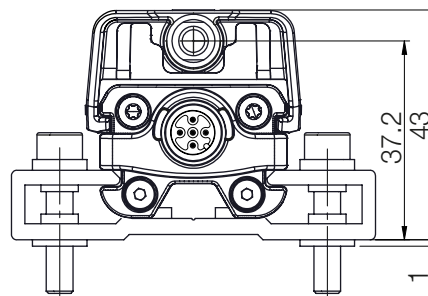
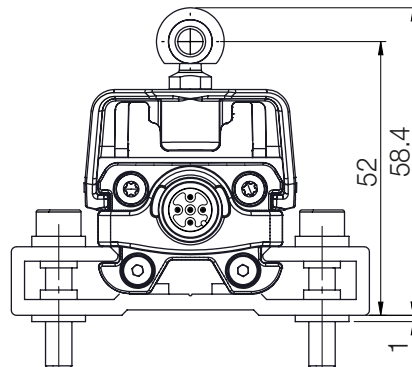
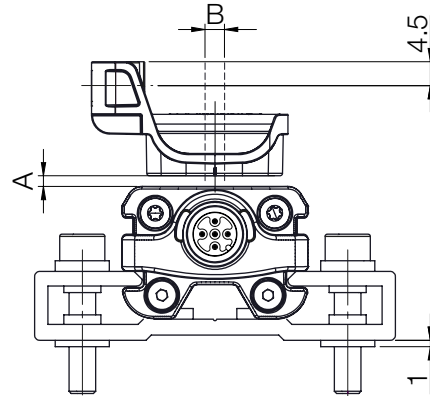
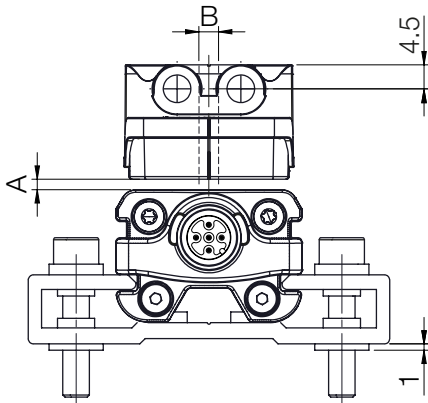

Fig. 5-1: Dimensions and distances with BAM TG-IR-037-A
Fig. 5-2: Dimensions and distances with BAM TG-IR-037-B
Fig. 5-4: Dimensions and distances with BAM TG-IR-036-B
Fig. 5-3: Dimensions and distances with BAM TG-IR-036-A
The BIR inductive rapid positioning system is suitable both for floating, i.e. non-contacting targets (see Fig. 5-3 and Fig. 5-4) and for guided targets (see Fig. 5-1 and Fig. 5-2).
- For distance A between the target and the BIR and for the center offset B (see Fig. 5-3 and Fig. 5-4) the following values must be maintained: